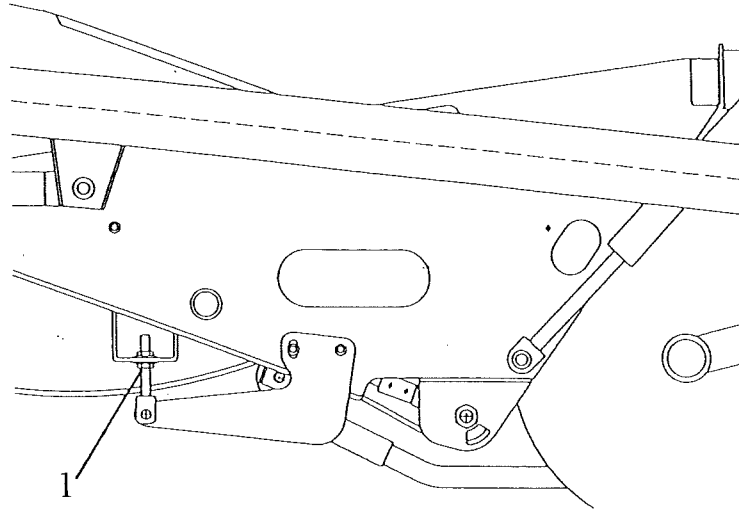

Fig 6.4
Adjusters are fitted to either side of the machine (fig 6.4 item 1) to change the pitch of the shares. The points of the should be kept as high as practical whilst still maintaining adequate digging depth. This will ensure that the crop flows smoothly onto the web. If the points are lowered too much the crop will feed into the web with an increased risk of crop damage. Lowering the points will assist penetration, but if the soil has been adequately cultivated this should not be necessary. If the pitch of the shares is too steep (points lowered) it can greatly increase the loading or bulldozing effect on the share frame, especially when in hard or tough conditions.